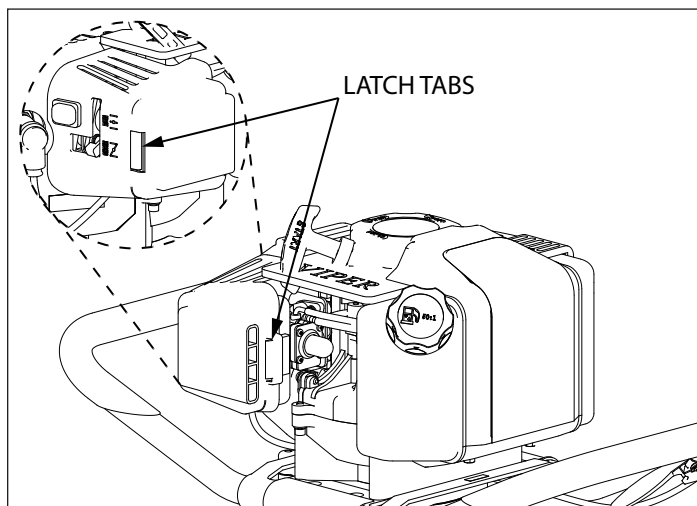

Figure 3
2. To remove air filter cover, squeeze the latch tabs on both sides of the cover. **SEE FIGURE 3.**